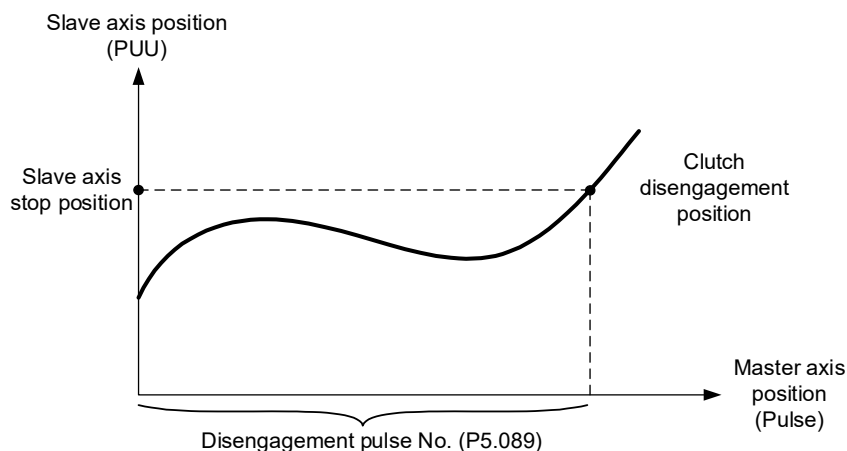

Figure 7-78 Disengagement timing: slave axis stops right after clutch disengagement
- 3) Immediate stop after disengagement (P5.088.U = 2): when the clutch is engaged and the pulse number of the master axis reaches the value set in P5.089, the clutch disengages, the slave axis stops immediately, and the E-Cam system is in stop state as shown in Figure 7-78. This function is suitable for applications that require the slave axis to accurately stop at the specified position.